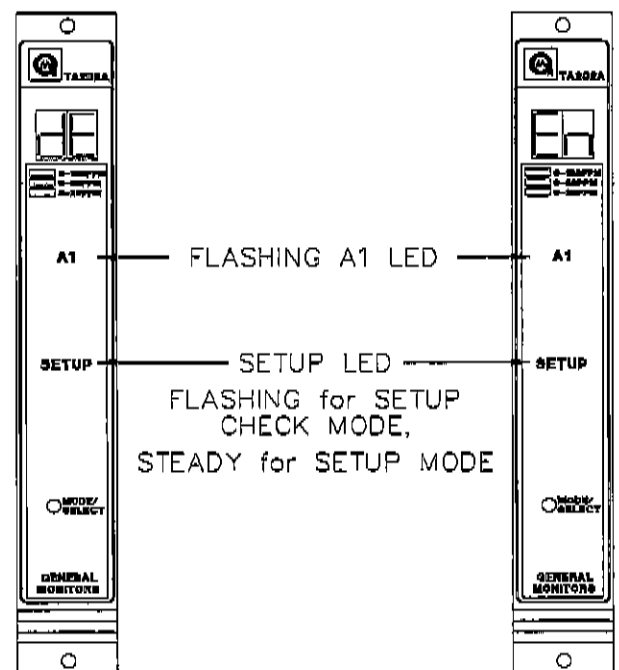

Figure 20
- Next, the **A1** LED on the front panel will be flashing while the Energized/De-energized option is displayed (figure 20).